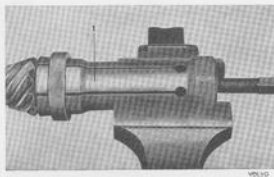
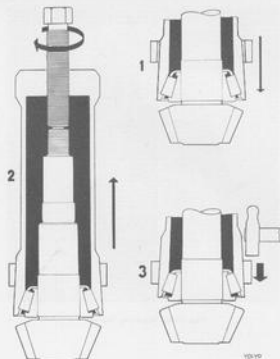
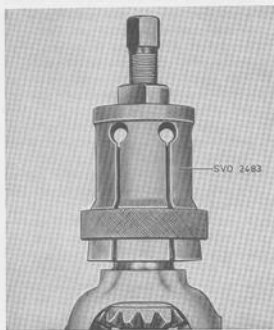

Fig. 4-158. Removing rear pinion bearing
Fig. 4-159. Fitting puller
Fig. 4-161. Removing differential carrier bearings
11. If necessary, pull off the rear bearing from the pinion with puller 2392, see Fig. 4-158. The puller is fitted in the following way: Move the puller down over the rollers and press down the lock ring. Then pull up the puller with the bolt until the rollers lie flush with the edge of the inner race and the edge on the puller. Knock out the lock ring with a hammer. See also Fig. 4-159.
3. Pull off the differential carrier bearings with puller 2483, see Fig. 4-161. Do not loosen the shims. Concerning the fitting of the puller, see also Fig. 4-159.